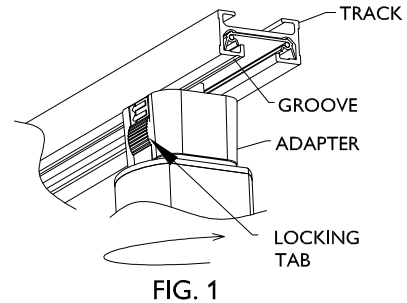

FIG. 1
1. Insert luminaire into TRACK as shown in FIG.1. Arrows on ADAPTER on GROOVE side of track.